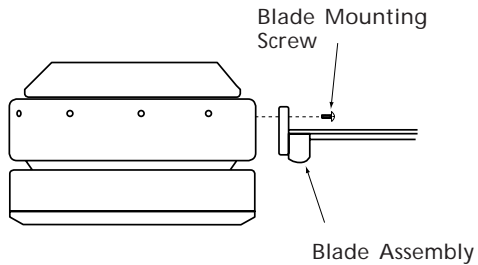

Figure 6d - Attaching Blade Assembly to Hub of Fan Assembly
4. For each blade assembly, insert one blade mounting screw through the blade iron as shown in Figure 6d, and attach lightly to the fan. Insert the second blade mounting screw, then securely tighten both mounting screws.